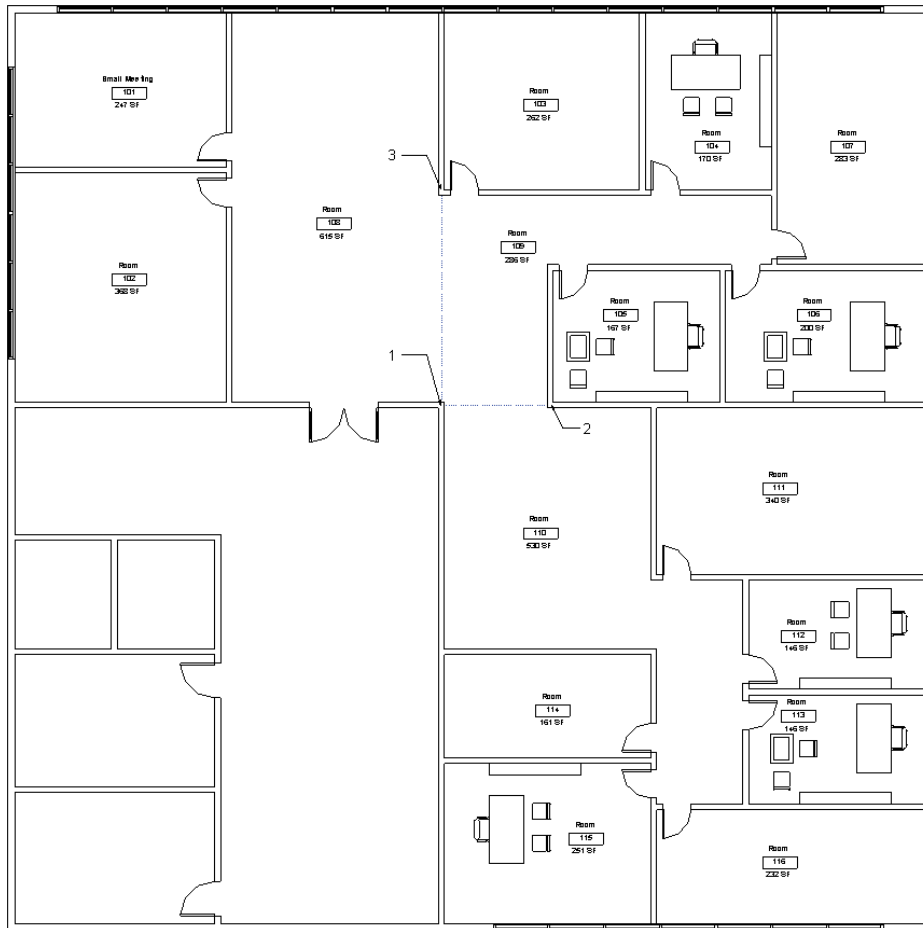

FIGURE 8.10 Adding room separation lines
4. Sketch another room separator in the sample file between the wall intersections labeled 1 and 3. Then add rooms and room tags to the spaces, as shown in Figure 8.10.